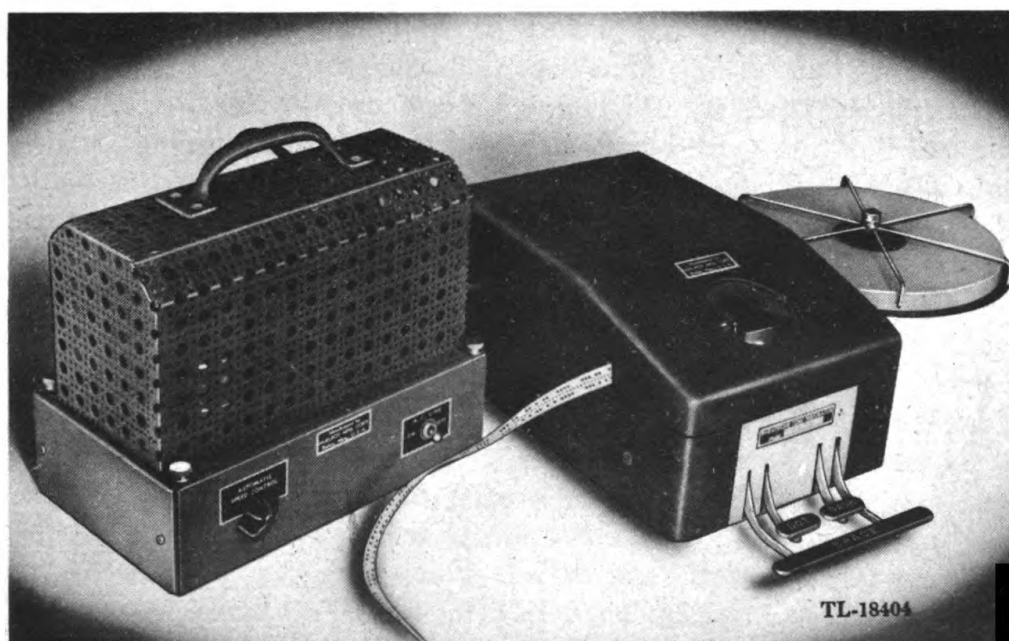

Figure 6. Hand perforator.
b. **Hand Perforator.** The hand perforator (fig. 6) can be used by anyone who knows the International Morse code. Since it has only three